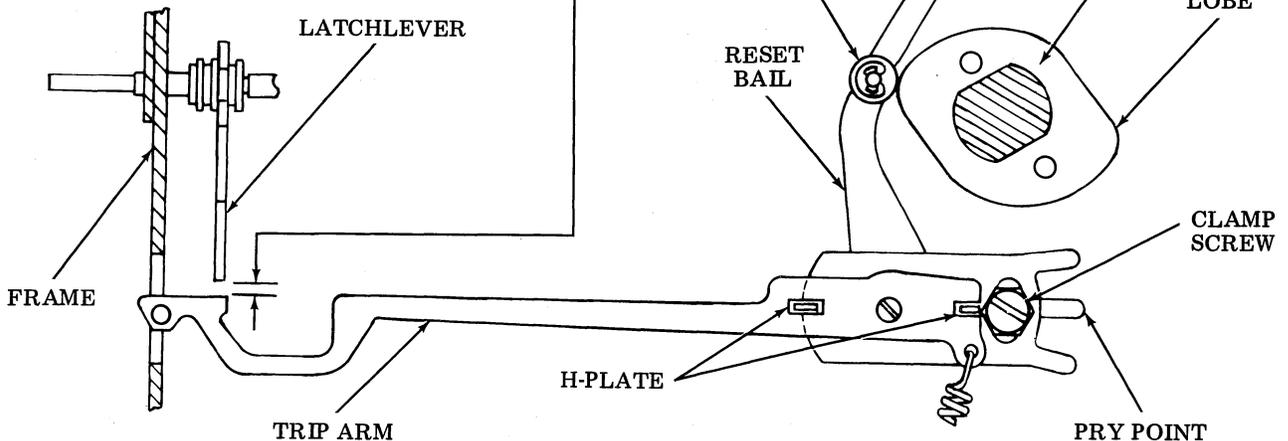

Figure 10 - Keyboard Trip Arm
4.07 Keyboard Trip Arm: Due to movement during shipment, the keyboard trip arm may become out of adjustment; an indication of this is when the keyboard double trips. If adjustment is necessary, refer to the keyboard trip arm as shown in Figure 10.